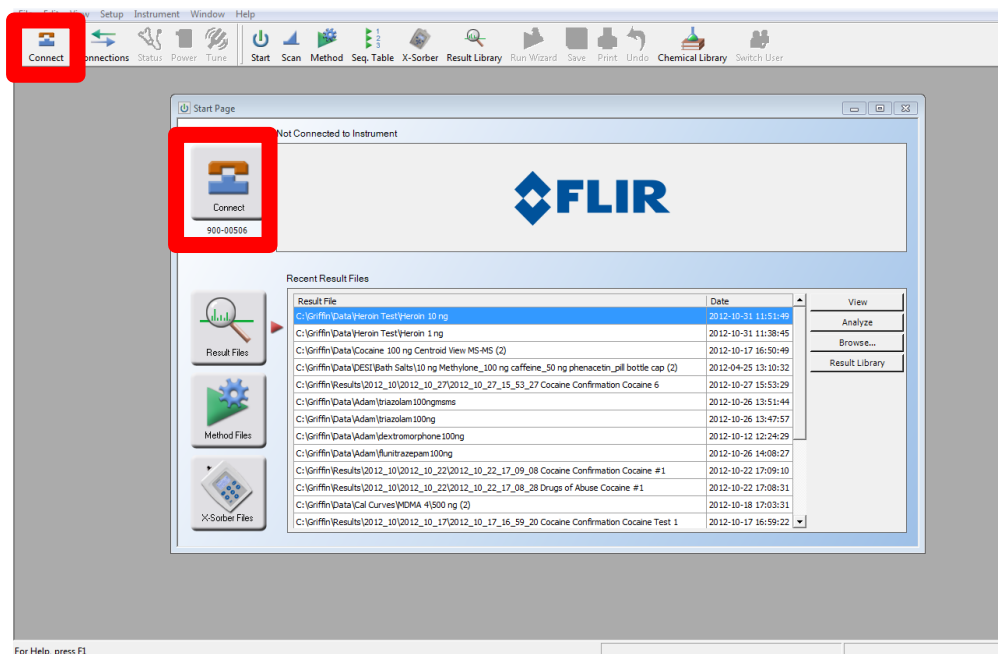

Figure 4.2 – Connecting the instrument
2. Click “Connect” on the top toolbar or the Start Page to establish the connection with the instrument (Figure 4.2). The Start Page can be closed at this point. However, recently saved data can be easily opened through the Start Page. How you open saved data files or open methods is of personal preference.